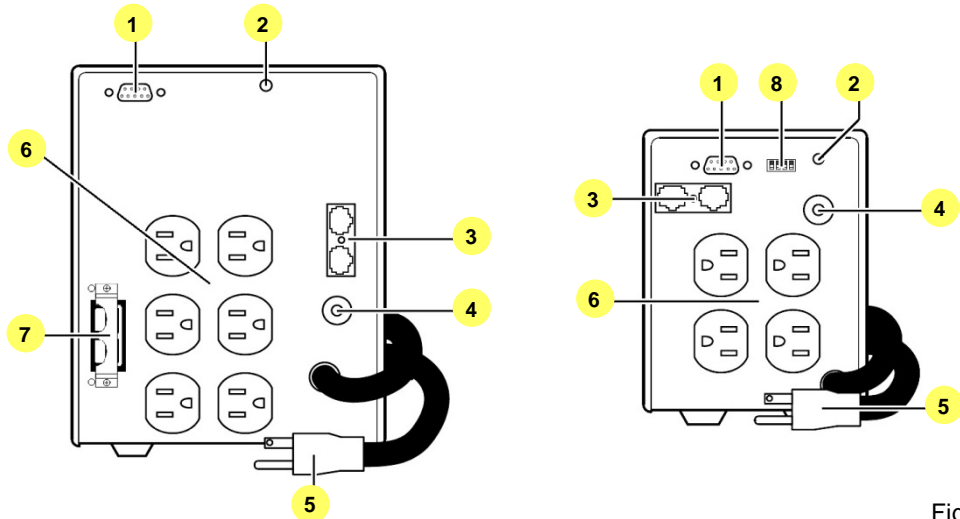

Figure 4
**NOTE: Symbols & functions may differ on some UPS models. Figure 4 illustrates some of the variations in displays. Please use the illustration which best resembles your UPS.**
**UPS Outlets (Figure 4):**
**Option Switch configuration (Figure 4, reference #8):**